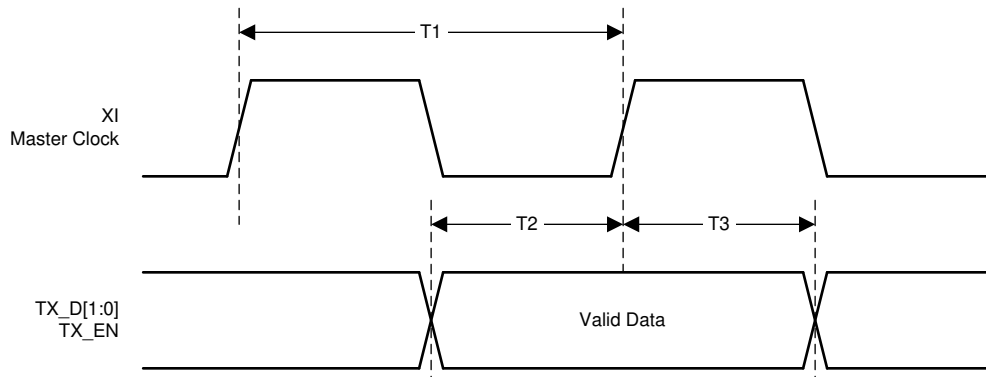

Figure 7-9. RMIIT Transmit Timing
(1) Ensured by production test, characterization or design.
(2) See Figure 7-9.